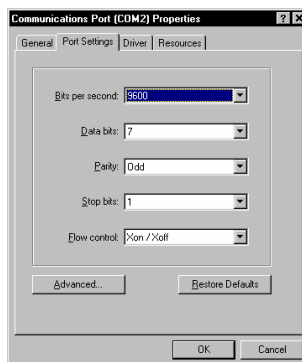

Figure 7.1: Communication Port (COM 2) Properties dialog box
- ◆ **Windows NT:** double click on the *Ports* icon, double click on the correct Communication Port (usually COM 1 or COM 2) this will display a dialog box similar to that shown in the *Figure 7.1*.
- ◆ **Windows 2000 and XP:** Double click on the *System* icon. Select the *Hardware* tab. Press the *Device Manager* button. Double click on *Ports*. Double click on the correct Communication Port (usually COM 1 or COM 2). Choose the *Port Settings* tab to display the *Communication Port (COM) Properties dialog box* shown in *Figure 7.1*.